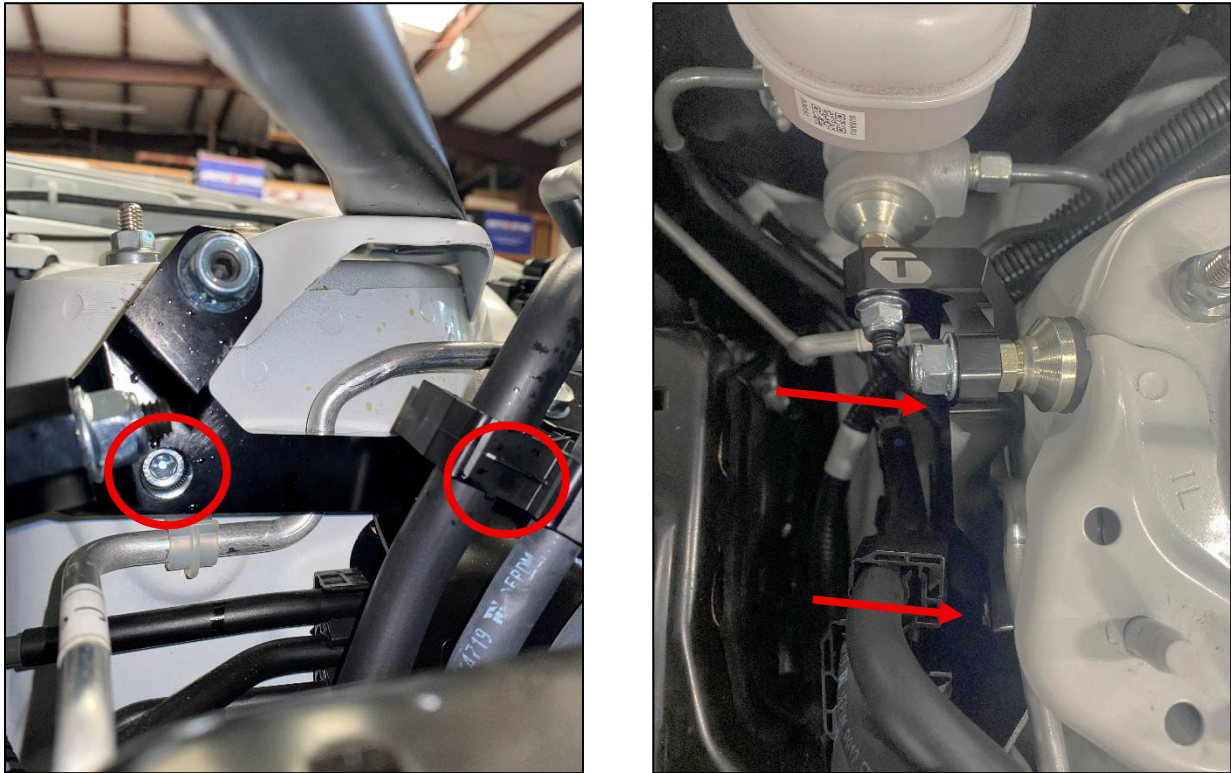

Figure 3
6. Position the Master Cylinder Brace over the (2) two OE Threaded Holes in the Shock Tower. The Brake Lines may need to be slightly adjusted to clear the Brace. Secure the Brace to the Shock Tower with the (2) two M6 x 1.0 Socket Head Screws, 30mm. *Figure 3.*